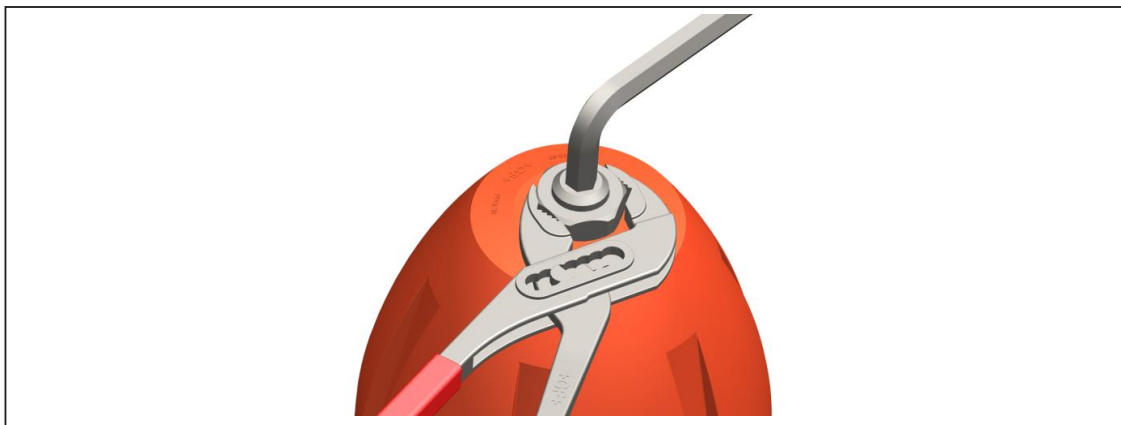

Fig. 6
- ▶ Fix the spindle with Allen wrench and simultaneously tighten the locking nut with a suited tool, see Fig 6